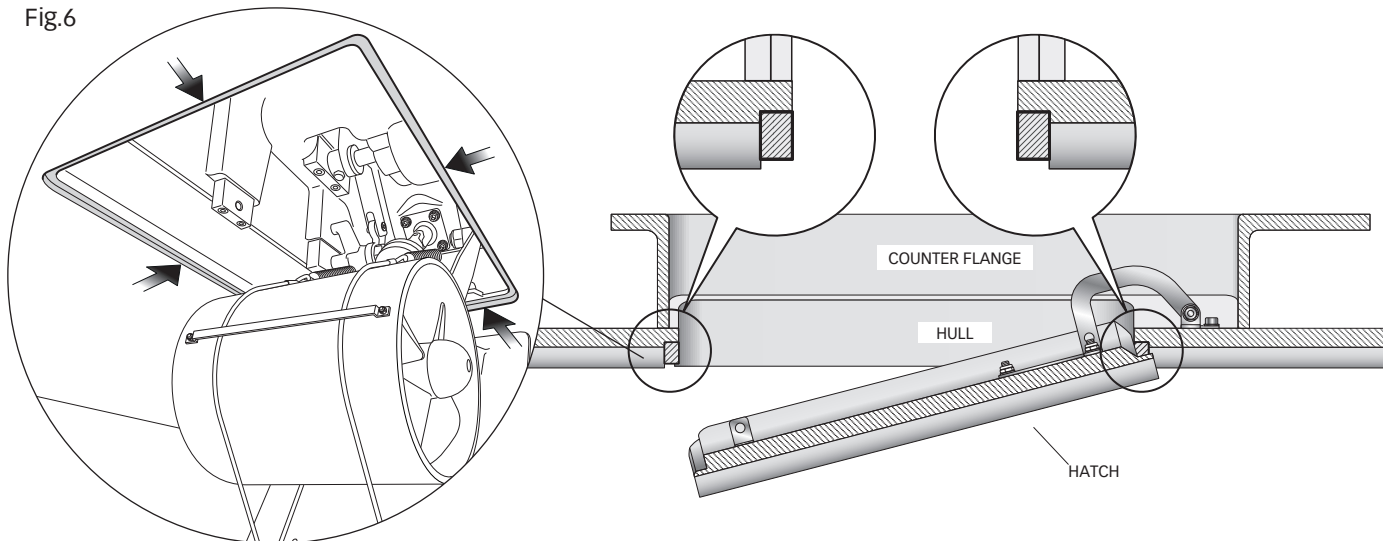

Fig.5
• Align the counter flange with the opening of the hull and **check that the 4 heights indicated in fig.B page 9** are correct. Apply resin to the counter flange or weld it, in the case of aluminium or steel, according to the techniques identified as the most suitable for the type of hull construction (fig. 5).